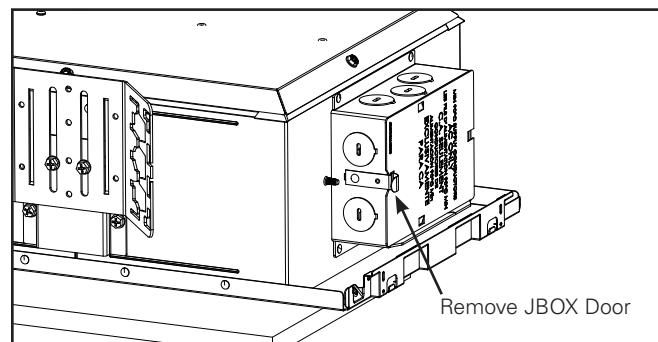

Figure 4b.
5. See Figure 4b-4c for visual assistance.